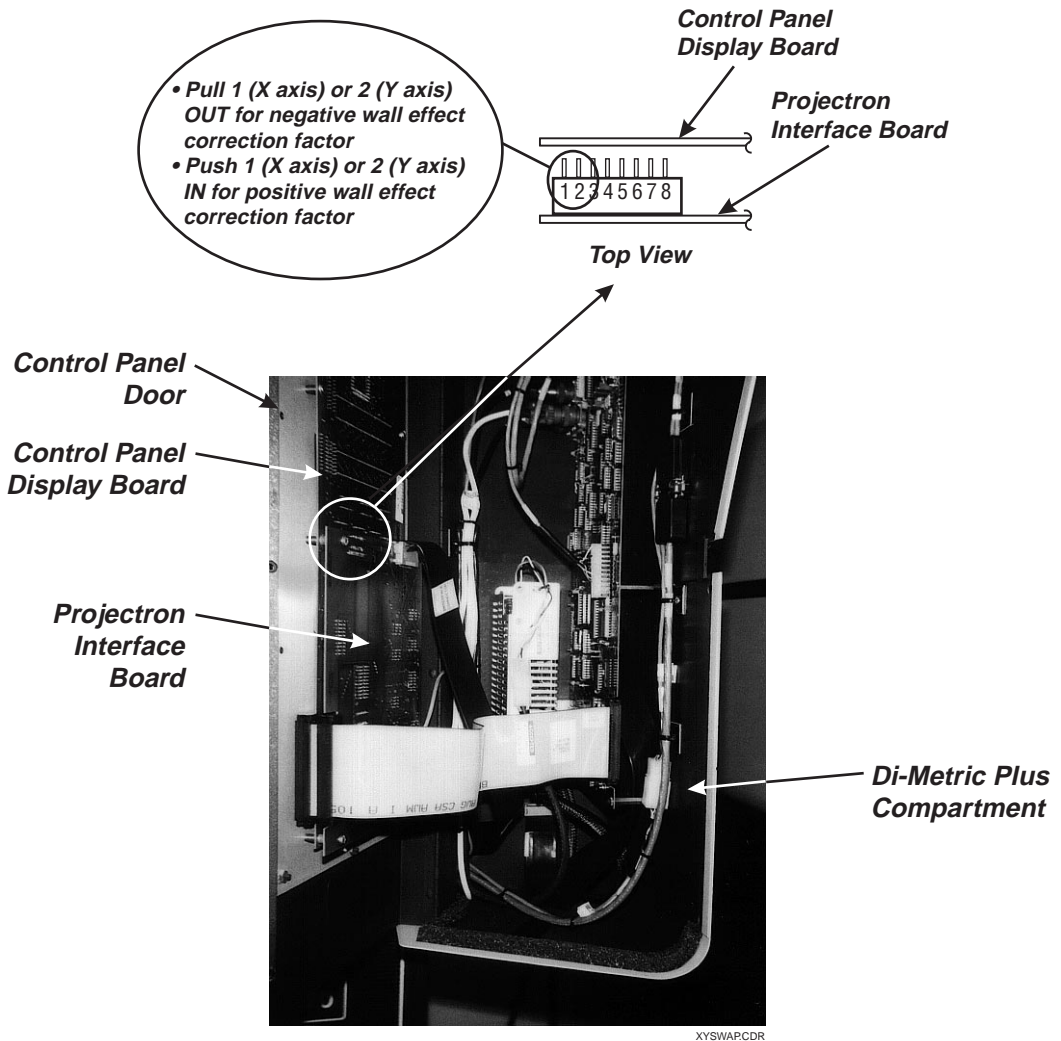

Figure E-1. Setting Direction of X/Y Wall Effect Correction Factor
7. Locate and remove the three socket head screws on the outside right wall of the Di-Metric Plus compartment, and swing the control panel door open. Find the Projectron Interface board, which is mounted on standoffs on the rear surface of the control panel door. There is a dip switch mounted at the top left of the Projectron Interface board, on the component side of the board (see Figure E-1). Switch 1 controls the sign of the X axis wall effect, and switch 2 controls the sign of the Y axis wall effect.